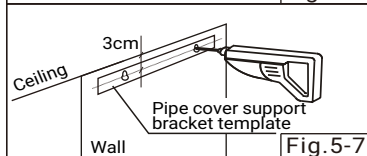

Fig.5-7
10. Rest the pipe cover support bracket drilling template against the wall, the vertical centre line printed on the drilling template must correspond to the centre line drawn on the wall. The distance between the ceiling and the horizontal centre line of drilling template is 3cm. Drill holes at the indicated positions (1 hole each at left and right).(Fig. 5-7)